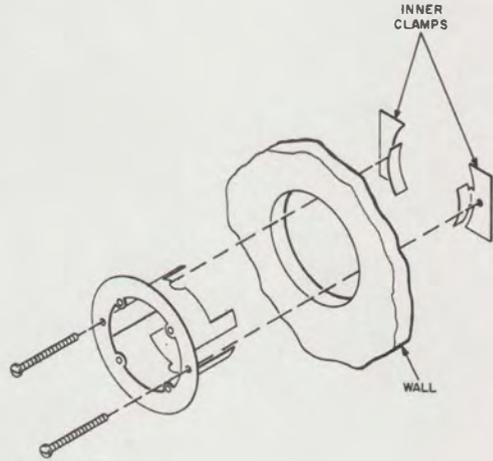

Fig. 16—KS-19407, L1 Bracket
**3.15** The KS-19407, List 1 bracket (Fig. 16) can be used for wall mounting 47-type connecting blocks where the wall material has been applied to the studs. The bracket can be used on wall material up to 1-1/8 inches thick. For thin wall construction, it may be necessary to remove the breakoff portions of the bracket.